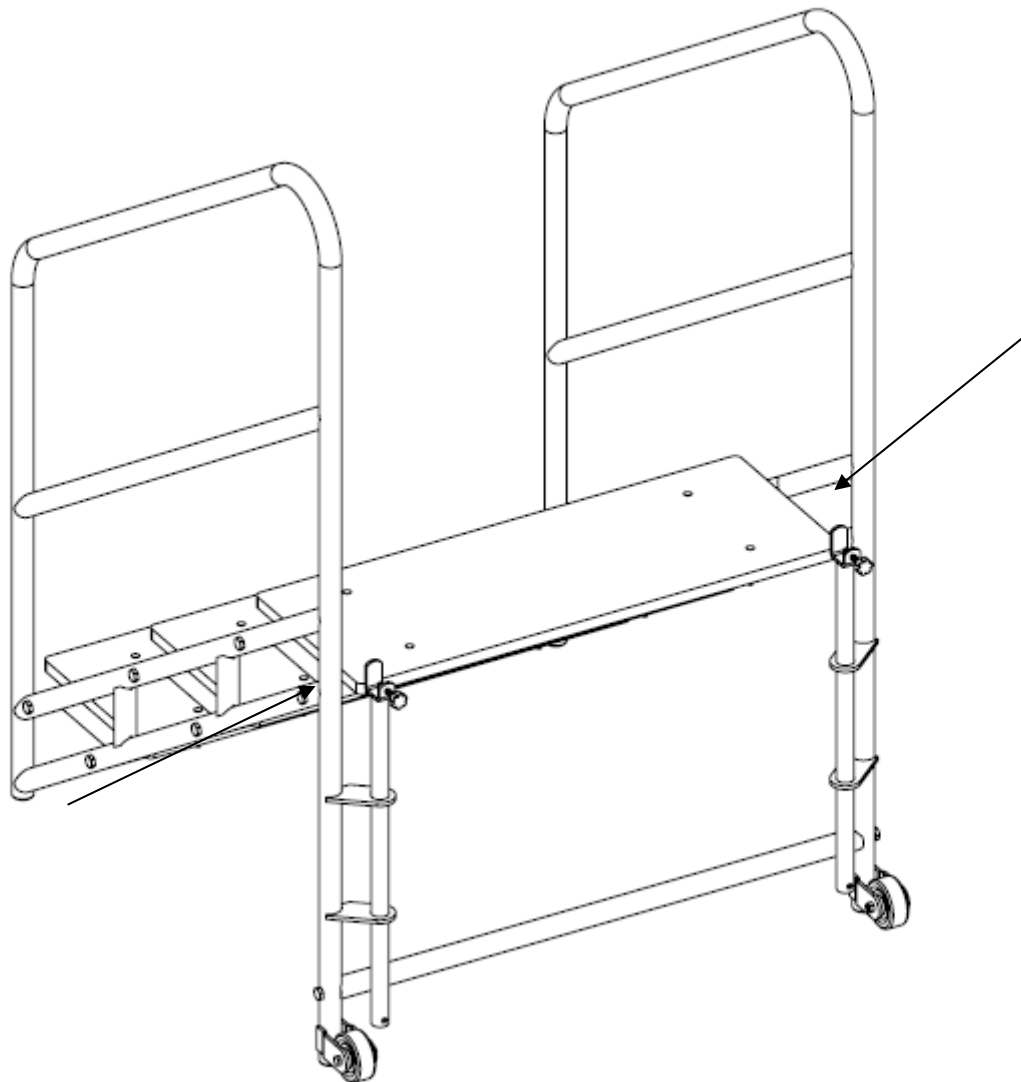

Figure 2
Step 1: Place the steps next to desired location adjacent to the stage (see figure 2).